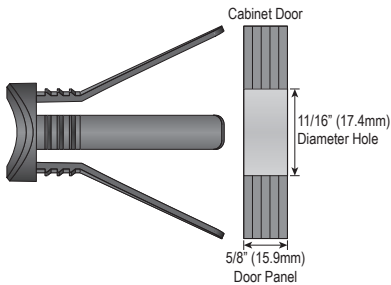

Figure 9 - Flush Mount Adapter -
This application requires drilling an 1 1/16" (17.4mm) hole in the cabinet door as shown in **Figure 9**. It is recommended that the IR Receiver be mounted closer to the hinged side of the cabinet door so the Electronics Module can be mounted to an inside wall rather than the door.
2. Drill an 1 1/16" (17.4mm) diameter hole in the cabinet door. **Figure 9**